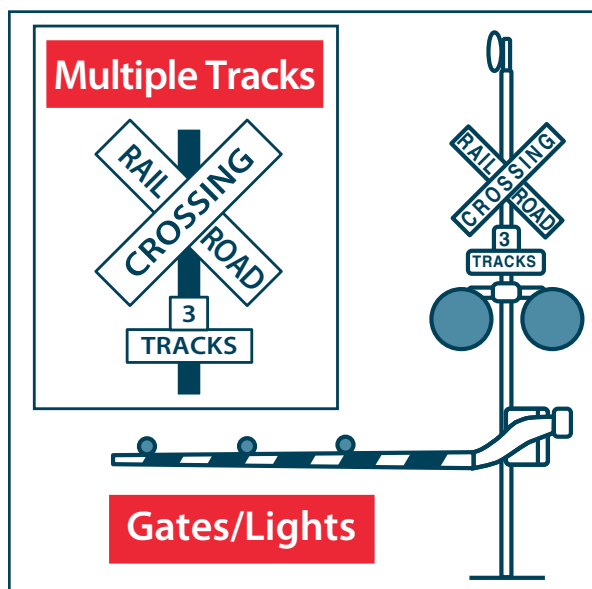

Figure 2.17 (insert) & 2.18
**Crossbuck Signs.** This sign marks the grade crossing. It requires you to yield the right-of-way to the train. If there is no white line painted on the pavement, you must stop the bus before the crossbuck sign. When the road crosses over more than one set of tracks, a sign below the crossbuck indicates the number of tracks. See Figure 2.17.